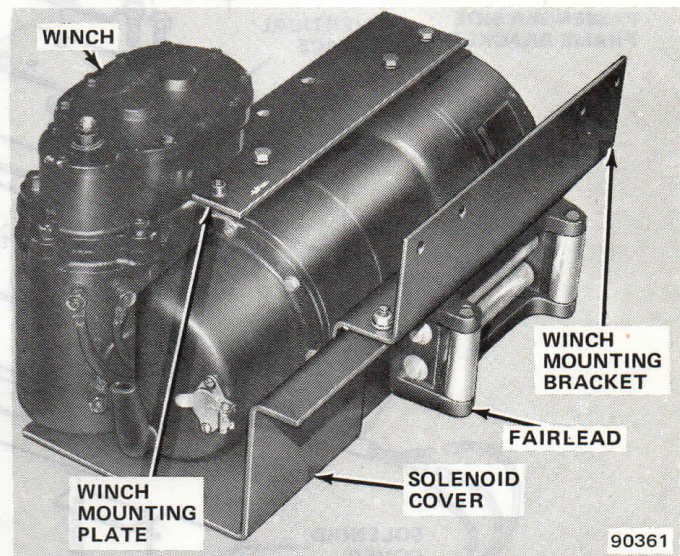

Fig. 5-15 Winch Mounting Component Installation
(12) Install fairlead and winch mounting components on winch (fig. 5-15). Position winch mounting bracket on winch and loosely attach bracket using 3/8 x 1 bolts and lockwashers. Position solenoid cover on mounting bracket and attach cover to winch using 3/8 x 1 bolt and lockwasher. Attach flanged edge of solenoid cover to winch mounting bracket using 3/8 x 1 bolt, lockwasher and nut (fig. 5-15). Install fairlead on winch mounting bracket using 3/8 x 1-1/4 bolts and lockwashers. Tighten bolts to 18 foot-pounds (24 N•m) torque.